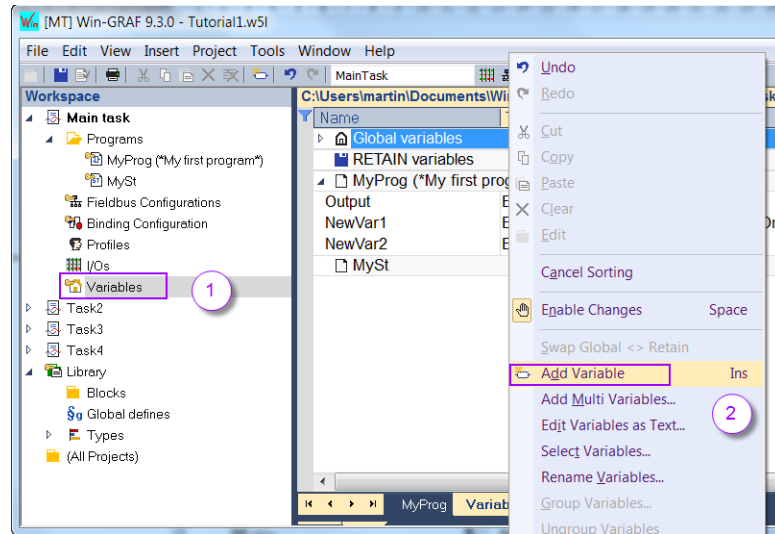

Figure 153: Declare a variable using the variable editor
- Step 2:** Right click the group (Global, Retain, local) and select '*Add Variables*' (Figure 153). A alternative way is to select the group and press the '*Insert*' key on the keyboard. A variable with the name '*NewVar*' of BOOL type is being added to the editor.